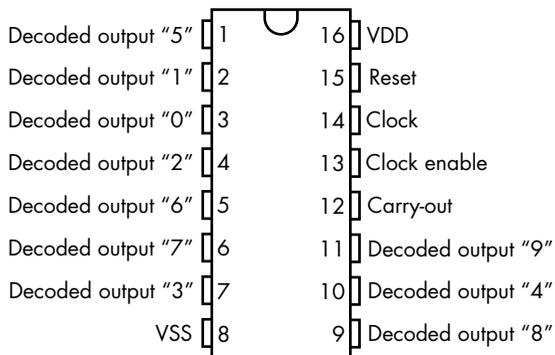

Figure 9-6: The CD4017 B is a CMOS counter/divider comprising a 5-stage Johnson counter with 10 decoded outputs. It is used here as a divide-by-10 counter.
- One HCT4017 decade counter IC, like the CD4017 B shown in Figure 9-6